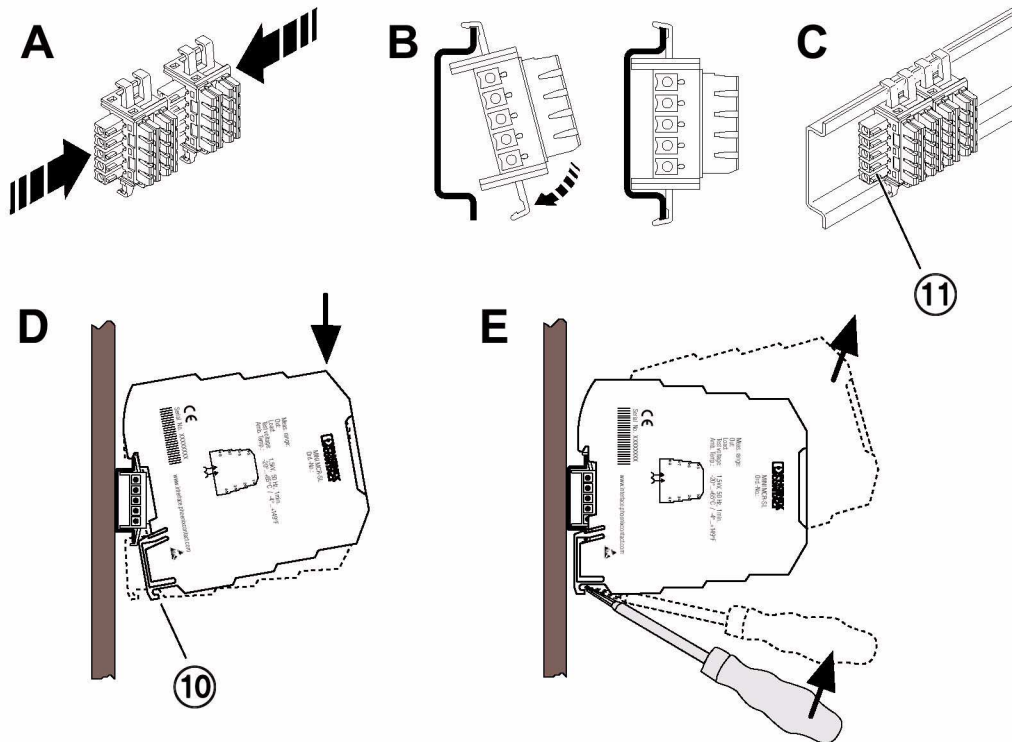

Figure 6 Mounting/Removing
The voltage supply (19.2...30 V DC) can either be provided via connecting terminal blocks "7"/"8" of the modules, or together, via the DIN rail bus connector (see Figure 6 on page 7). Please also observe "Power Supply" on page 2.
Snap-on foot (Figure 6, detail D 10) **below** and **plug** (Figure 6, detail C 11) **left!**
- First position the DIN rail bus connector in the DIN rail to bridge the voltage supply (see Figure 6).